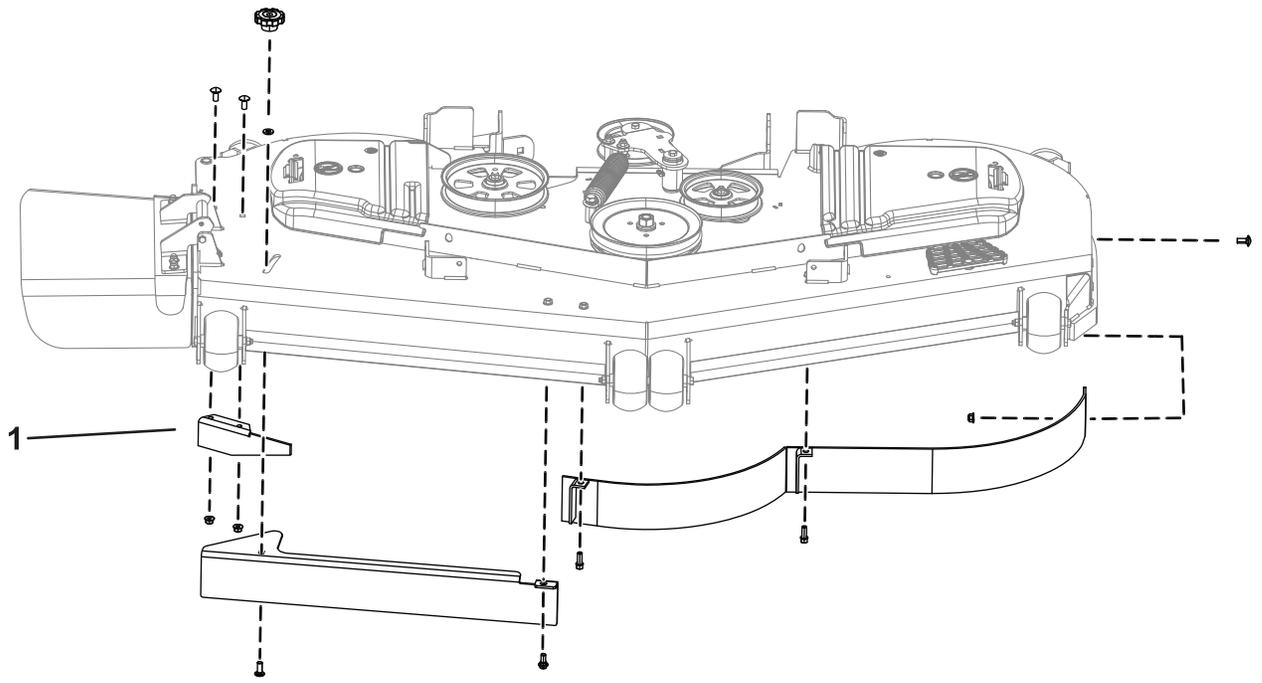

Figure 3
1. Remove the flange nuts holding the baffles in place (Figure 3).
2. Remove the cam lock and washer by unscrewing it from the adjustable flow baffle (Figure 3).
3. Remove the bolts holding the baffles in place (Figure 3).
4. After removing the discharge baffle, install the nuts and bolts back into the mower deck (Figure 3).